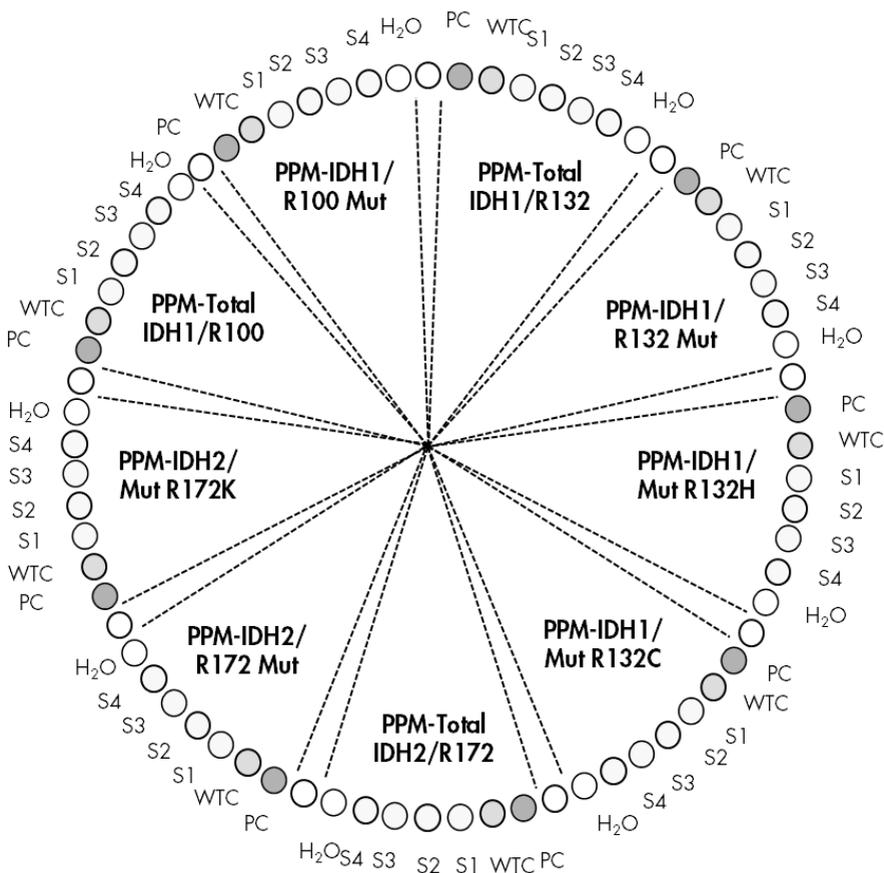

Figure 2. Suggested rotor setup for an experiment with the IDH1/2 RGQ PCR Kit.
- We recommend testing all samples once per PCR run, as indicated in Table 2 and with a loading block layout and rotor setup as indicated in Table 3 and Figure 2.
6. Place the tubes in the adapter provided with the instrument (Figure 2).